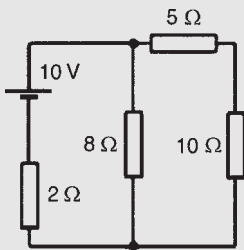

Figure 13.54
**Problem 13.** Use Norton's theorem to determine the current flowing in the  $10\ \Omega$  resistance for the circuit shown in Fig. 13.54